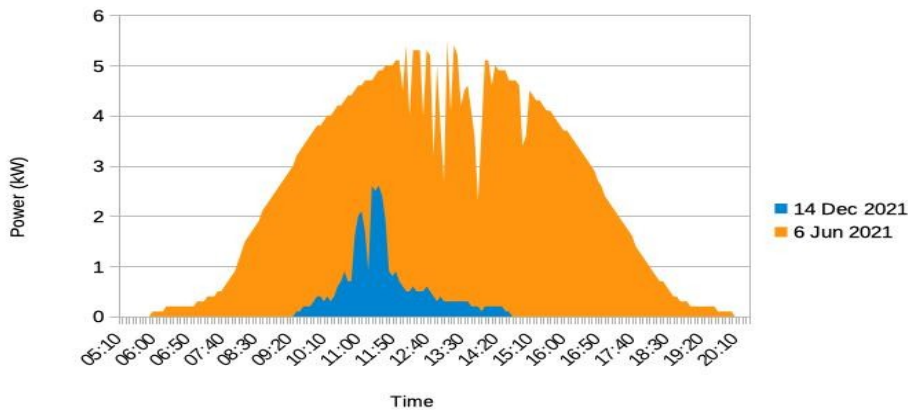

Figure 2: Solar generation summer vs winter (6kWp south-facing system)
Figure 2 shows the actual measured power generation profile for sample days in December and June for a south-facing 6kW system. In December, generation starts around 09:30 and stops around 15:00. In June power is generated from around 06:00 through until 20:00. In the December plot, a couple of sunny periods are visible in the power output and in the June plot the effects of passing clouds can be seen.
- Does the proposed system provide the capability to add charge to the battery from the grid overnight to take advantage of off-peak electricity tariffs such as Economy 7? This is particularly useful during the winter months when solar generation is limited by shorter daylight hours and lower light levels than in the summer (see Figure 2). If it does, how is this controlled?